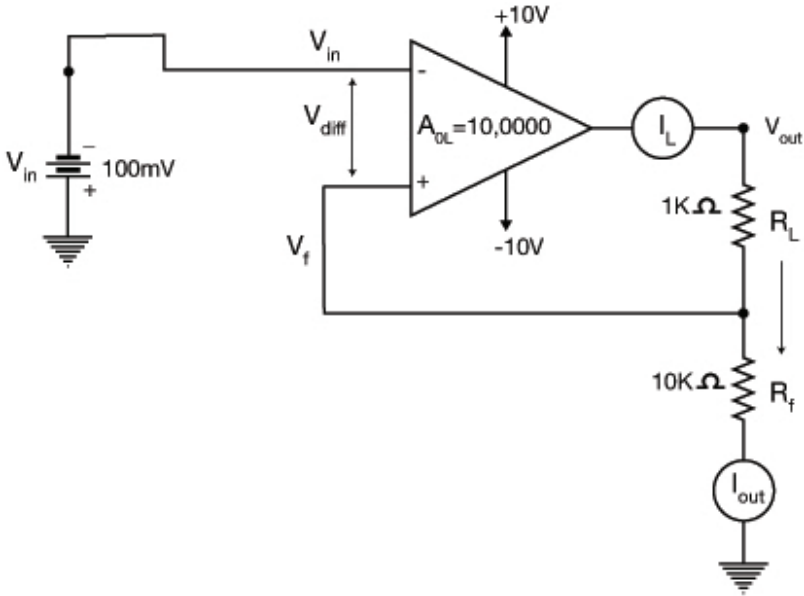

Figure 17.4 Voltage-to-current converter.
Some electronic circuits may use an op-amp to change an applied input voltage into a corresponding current flow. The **voltage-to-current converter** of **Figure 17.4** performs this operation very effectively. In this circuit, the load resistor (R_L) is connected in series with the feedback resistor (R_f). As a result of this, all of the output current (I_{out}) flows through R_L and R_f . The resulting I_{out} is then a constant value as long as the input voltage (V_{in}) remains constant. This action is the same for either AC or DC voltage values. Any value change in I_{out} causes a corresponding change in the voltage developed across R_f . This means that the **feedback resistor** voltage (V_{Rf}) and feedback voltage (V_f) applied to the inverting input have the same value because they are supplied by the same source. Any change in V_f causes a corresponding change in the difference voltage (V_{diff}). This means that V_{diff} is equal to $V_{\text{in}} - V_f$ or $V_f - V_{\text{in}}$.
In **Figure 17.4**, the **converter** has 100 mV applied to V_{in} . This immediately drives V_{out} into saturation or +10 V. This is the result of the high open-loop amplification (A_{ol}) of the circuit. Typical A_{ol} values are in the range of 100,000 or more. Now, with +10 V applied to R_L , it causes 10 mA of I_{out} to flow through the 1 kΩ and 10 Ω resistors. This, in turn, causes a voltage to be developed across R_L and R_f . The resulting V_{out} or V_{RL} , and V_{Rf} values are equal to I_{out} times the resistance of R_L or R_f . That is,
In **Figure 17-4**, when 125 mV is applied to V_{in} , it drives the op-amp into saturation. When this occurs, what are the values of I_{out} , V_{Rf} , and V_{diff} when R_L is 400 Ω and R_f is 5 Ω ?
If 50 mV of V_{in} is applied to **Figure 17.4** when R_L is 1 k Ω and R_f is 50 Ω , what are the values of I_{out} , V_{sat} , V_{Rf} , and V_{diff} ?
7. The voltage-to-current converter in **Figure 17.4** has: